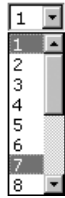

Figure 6-18 — Output selection drop box
1. Click the output drop box. A drop-down scroll box appears (figure 6-18).